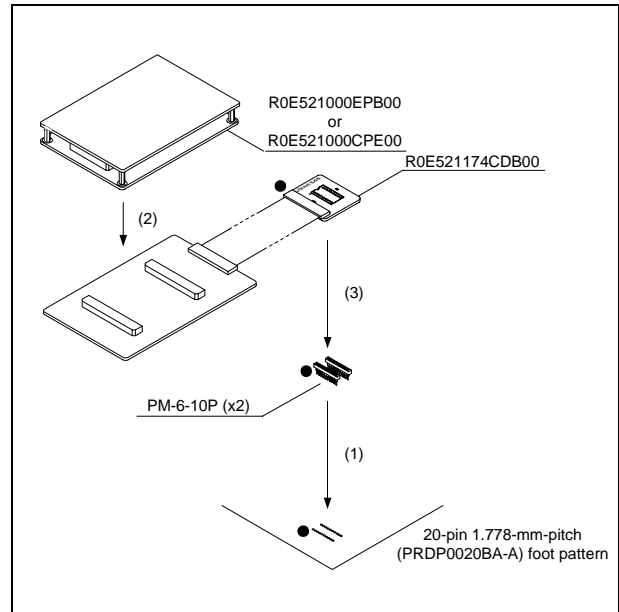

Figure 3 Connection procedure of the R0E521174CDB00
5. Connection Procedure (See Figure 3)